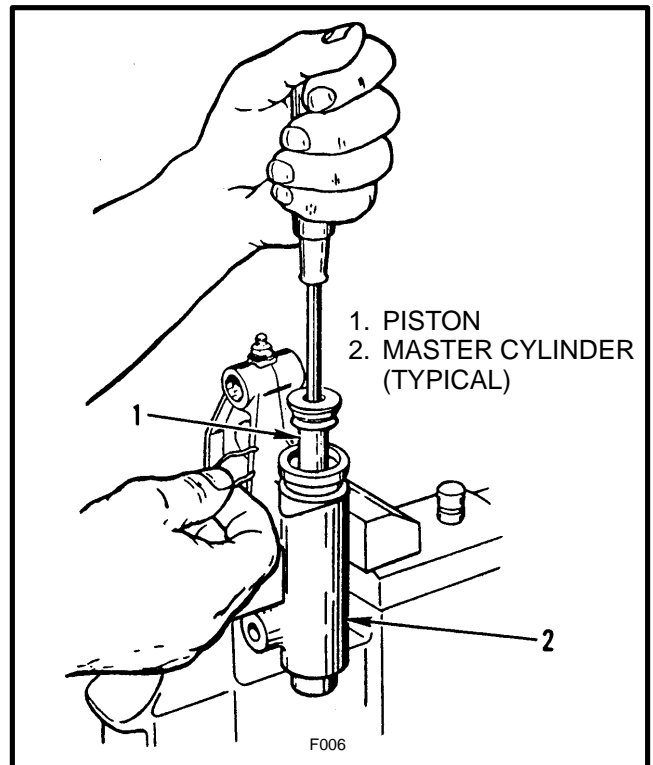

FIGURE 4. REMOVE THE PISTON
6. Put the master cylinder in a vise with soft jaws as shown in FIGURE 4. Push on the piston to release the tension on the snap ring. Remove the snap ring, washer and piston. Remove the spring.
3. Put the master cylinder in a vise with soft jaws as shown in FIGURE 4.
1. Use a repair kit. Install the parts in the order shown in FIGURE 4. Hold the piston in the cylinder with a screwdriver. Make sure the snap ring is in the correct position.